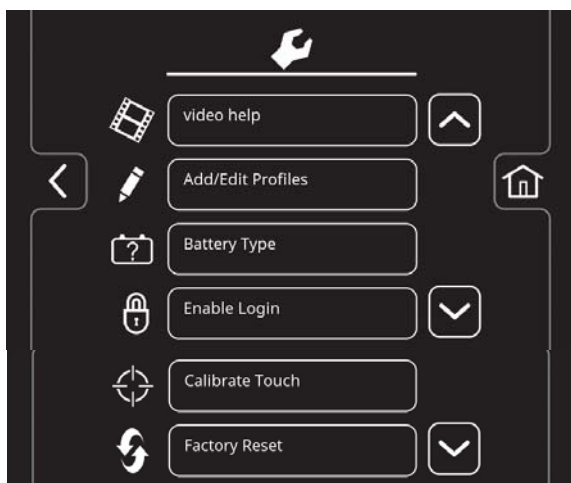

FIG. 160
- The machine's setting screen provides access to the following menu (Figure 160).